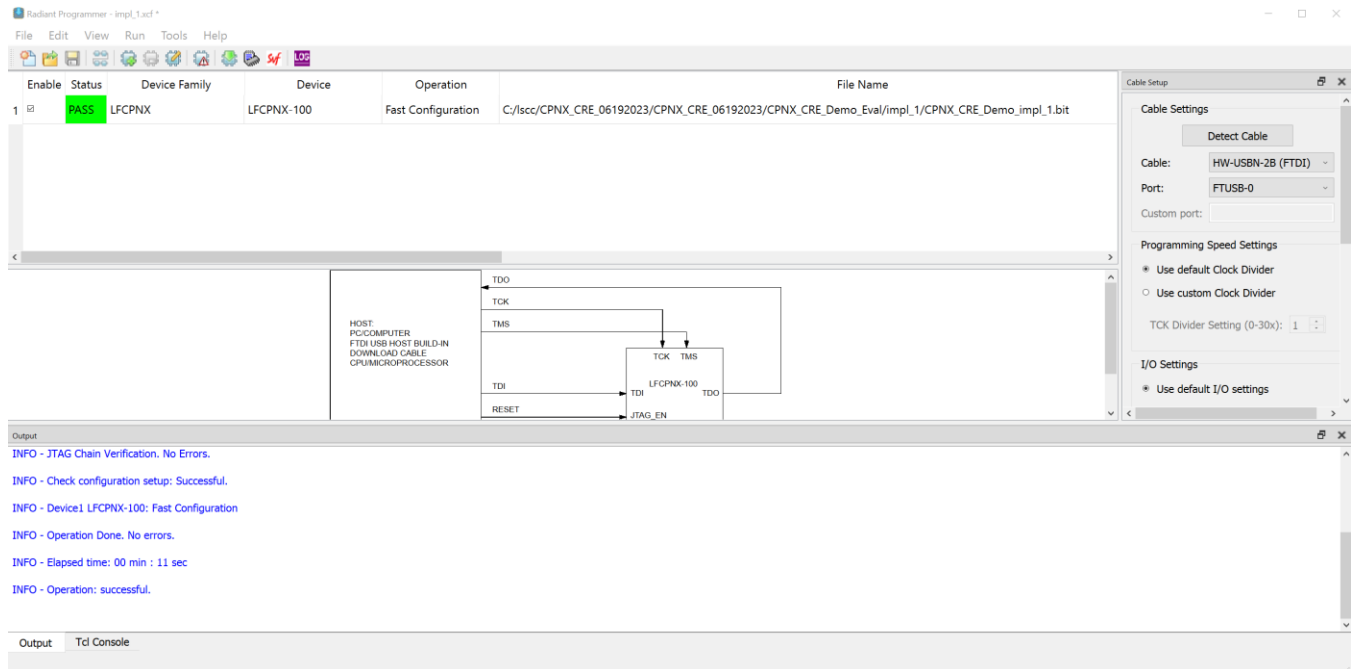

Figure 4.13. Programming the Device
- Click Program Device. **Status** should display **PASS** and the console window at the bottom of the screen should display the logs as shown in Figure 4.13. This indicates that the configuration is successful.